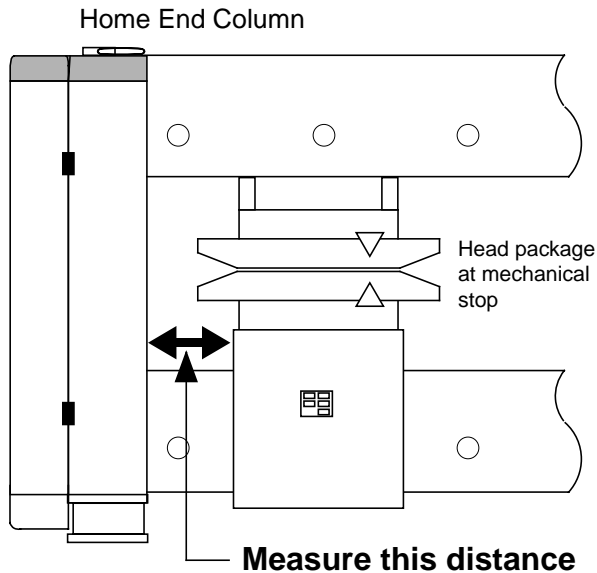

Figure 5-7 Head Position Calibration Measurement
- Measure the distance from the home end column to the edge of the carriage wrap-around assembly as shown in Figure 5-7.